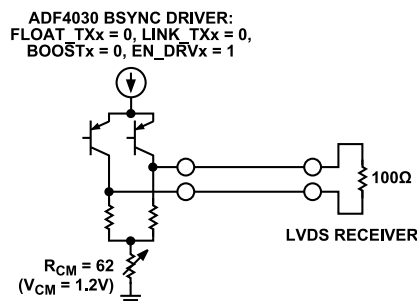

Figure 38. ADF4030 BSYNC to LVDS Receiver Connection
- ▶ An LVDS receiver (Figure 38 and Figure 39)